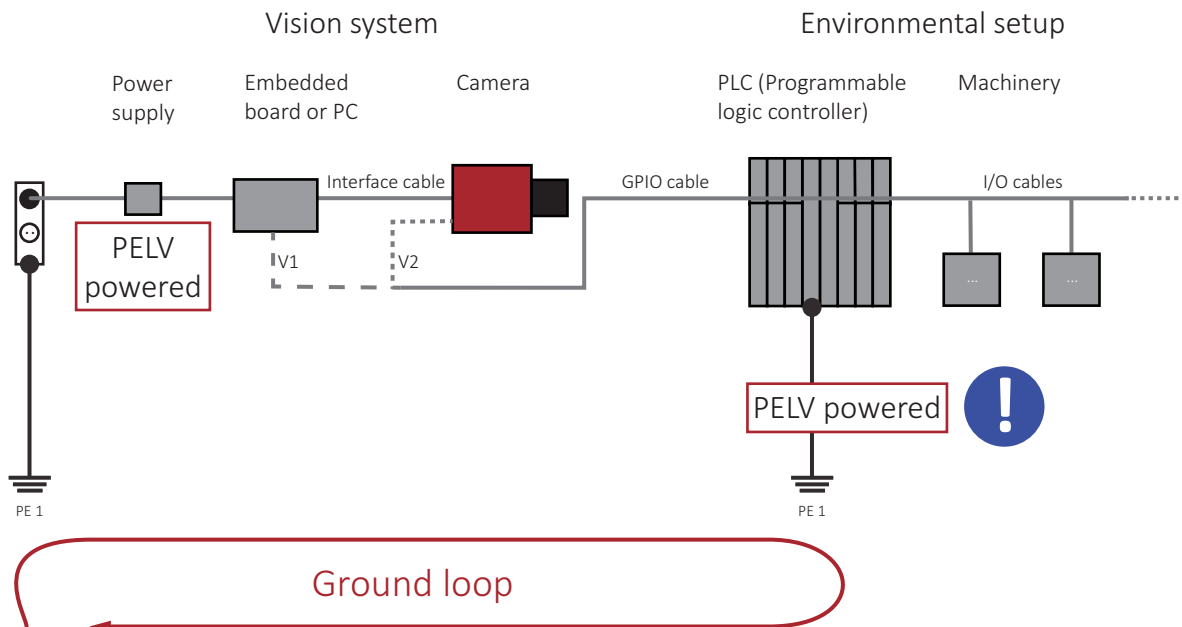

Figure 2: Ground loop when using GPIOs
- Avoid setups causing ground loops as shown in Figure 2.
In Figure 2, a camera uses non-isolated GPIOs, while PELV-powered devices are part of the environmental setup. In this case, avoid ground loops with a barrier isolator. See Setup to avoid ground loops on page 4.
Ground loops can damage cameras and connected devices or cause malfunctions. For example, use a barrier isolator, as shown in Figure 2.